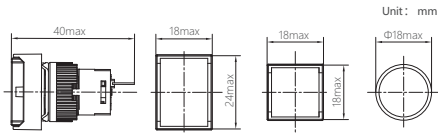
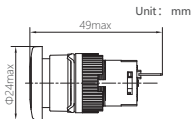

Figure 1 Overall dimensions of NP6-DS, D, BS, B, XD
Figure 4
1) The perforating diameter of the mounting hole for the button is $\Phi 16$, the minimum center to center distance of mounting holes should not be smaller than 25mm, see Figure 1 - Figure 4 for overall dimensions.